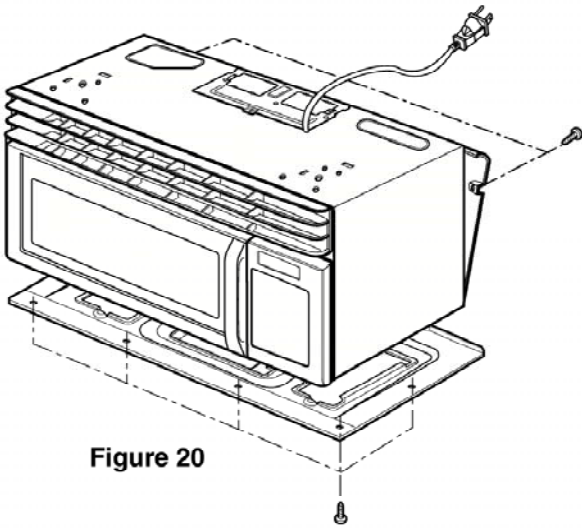
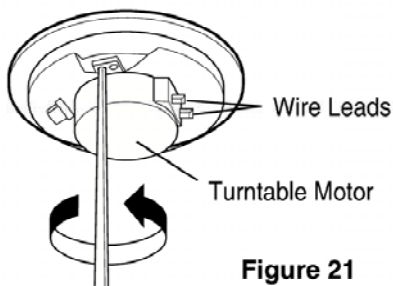

Figure 20
Figure 21
- (3) Remove the base plate by removing 6 screws securing it to the oven cavity. (Figure 20)
- (4) Disconnect the leadwire from the turntable motor terminals.
- (5) Remove the 1 or 2 screws securing the turntable motor to the oven cavity ASS'Y. (Figure 21)